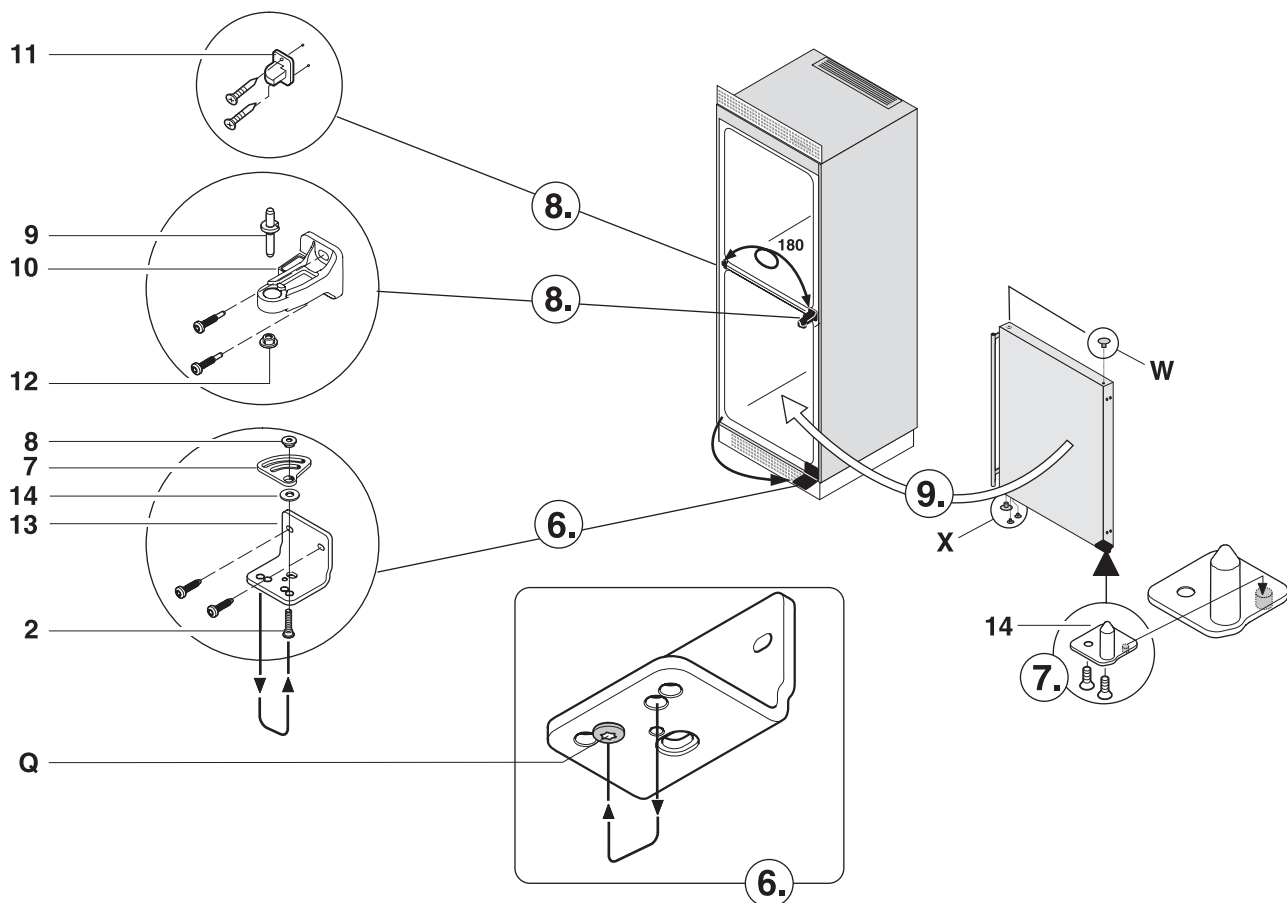

Figure 5
6. **Figure 5:** Unscrew the lower hinge (13).
- Remove screw (Q).
- Transfer hinge pin (2) to the opposite side.
- Transfer screw (Q) to the opposite side.
- Turn the stop (7) through 180° and position bushing (8) and washer as shown in the detailed drawing. The flat side of the stop must face forwards.
- Screw on hinge (13) on the new hinge side.
7. Install the door fittings as shown in **Figure 5**. Insert the plugs (X) as shown in the detailed drawing. Move plug (W) to the opposite side of the lower door.
8. Unscrew the center hinge (10) and cover (11), pull them off to the side and after turning them through 180°, slide them on again on the opposite side and secure them.
9. Place the lower door on the hinge pin (2) at the bottom.
- Pay special attention to the bushing (12) in the center hinge (10).
- Insert the hinge pin (9).